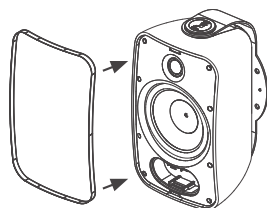

FIGURE 11:
8. Fit the grille onto the speaker by aligning the edges of the grille with the groove of the speaker face perimeter and pressing firmly until it is snug in place.. (see figure 11).